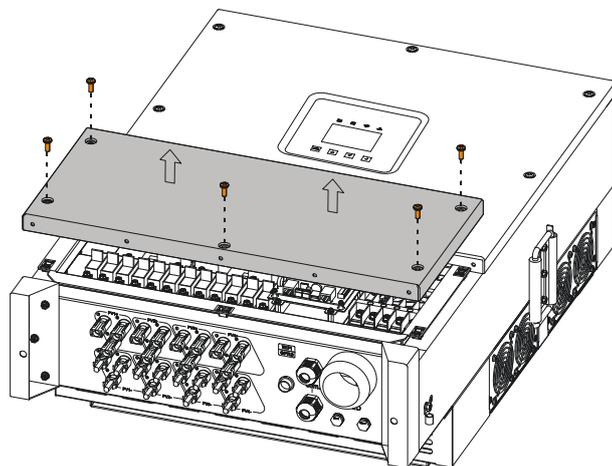

Figure3-20 Dismantle cover
Step 1 Dismantle cover, as shown in Figure3-20.